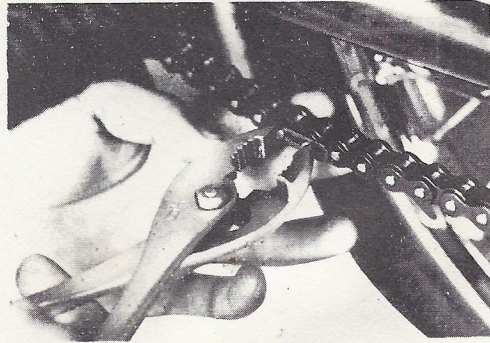

Fig. 3-1-12
10. Disconnect the chain case and remove the chain. (Fig. 3-1-12)